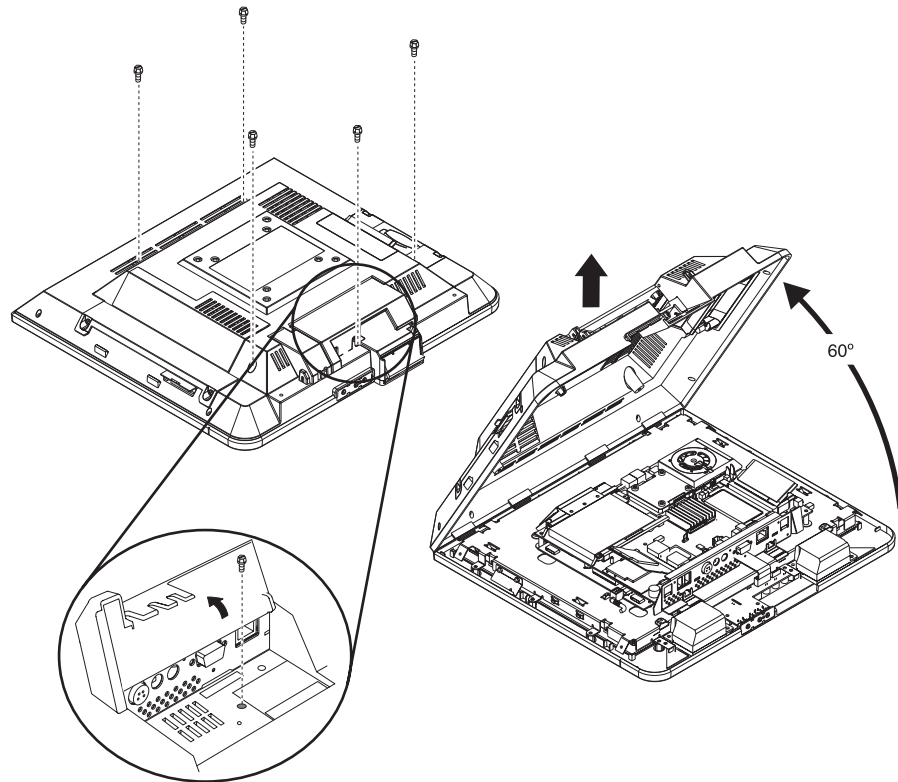

Figure 16. Removing the back covers
4. Locate and unfasten the five captured screws (see Figure 16) that secure the back cover.
5. Lift the cover to approximately a 60° angle (see Figure 16) to release the hooks and reveal the main planar assembly.